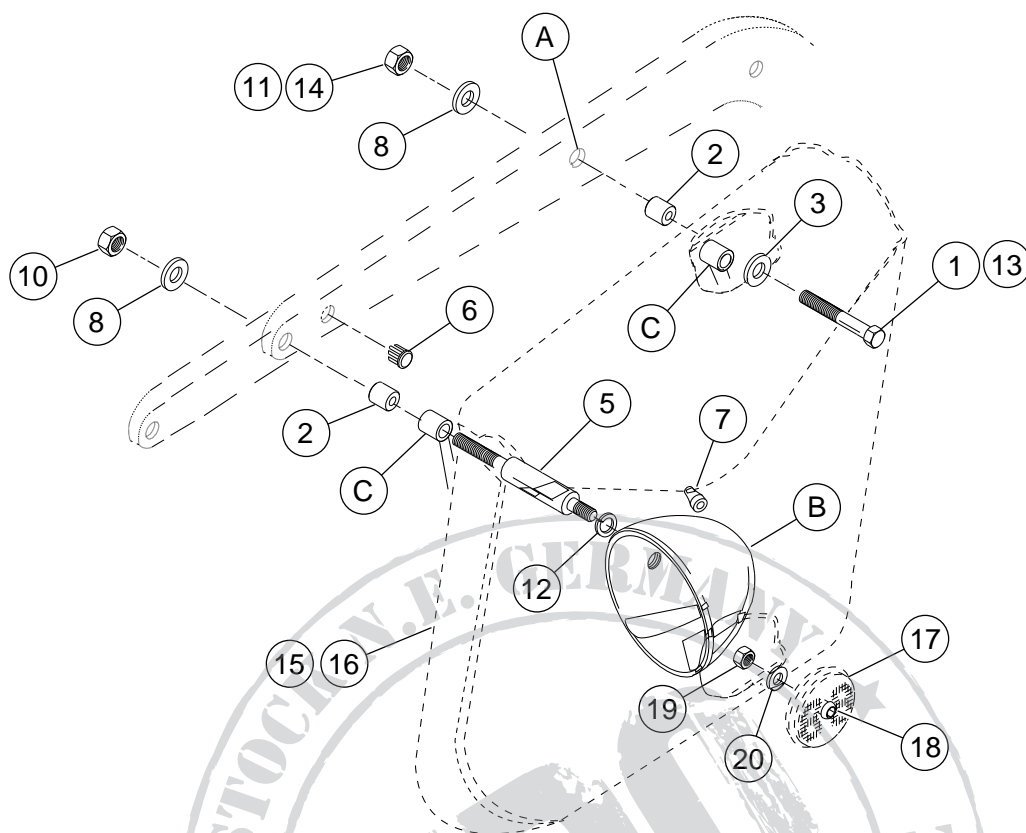

Figure 4. Service Parts: Dyna Rigid Mount Leather Saddlebags
See Figure 4 and Table 1.
1. See Figure 4. Remove bolt from location "A" on the fender support (A). This will be the location for the front mounting point. On FXD and FXDL models, the rear mounting point will mount at the rear hole on the fender support bracket along with the turn signal as shown. FXDWG will mount in the second to the last hole as shown.
If this kit is used with detachable sideplates, replace the spacers provided in this kit (Figure 4, Item 2) with detachable mounting points.
7. See Figure 4. Install lockwasher (12) and rear turn signal housing (B) onto short threaded end (5/16-24 x 3/8 in.) of turn signal stalk (5) from kit. Tighten securely. Take care to avoid scratching or marring component chrome finish.
8. Insert the wires through locknut (10), washer (8) and through the rear hole of the fender support.
10. Install chrome hole plug (6) in fender support hole previously used for turn signal wire. Install rubber plug (7) in hole of turn signal housing previously used for turn signal wire(s).
If this kit is used with detachable side plates replace the spacers provided in this kit (Figure 4, Item 2) with detachable mounting points.
1. See Figure 4. Strip a 3/8 in. section of insulation from both ends of each turn signal wire now inside the turn signal housing (B).